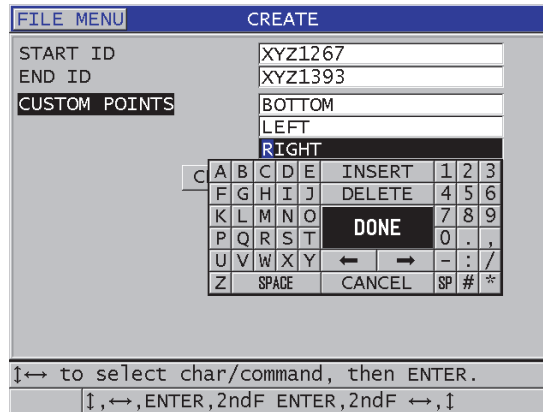

Figure 11-6 Configuring the ID range for a sequential with custom points data file type
3. In the second page of the **CREATE** screen (see Figure 11-6 on page 188):